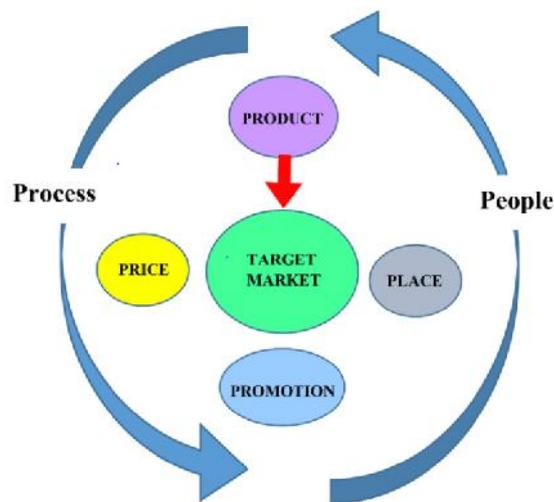

Figure 10-2: The marketing mix with the four Ps (Product, Price, Place and Promotion) and the interactive roles of process and people
When operating a tilapia farm, you should develop and stick to market strategies that provide maximum benefits or returns to the business. Four (4) key factors (Figure 10-2),